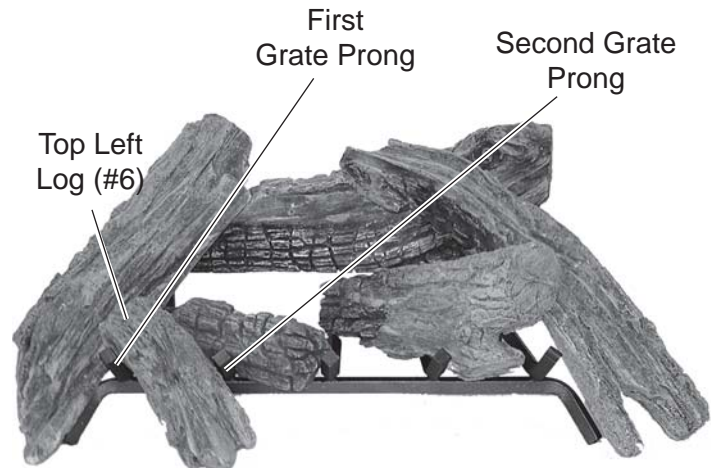

Figure 81 - Resting Top Left Log (#6) on Bottom Left Log and Back Log
7. Place end of Top Left Log #6 on bottom left log. Rest the other end between the first and second grate prongs. See *Figure 81*.